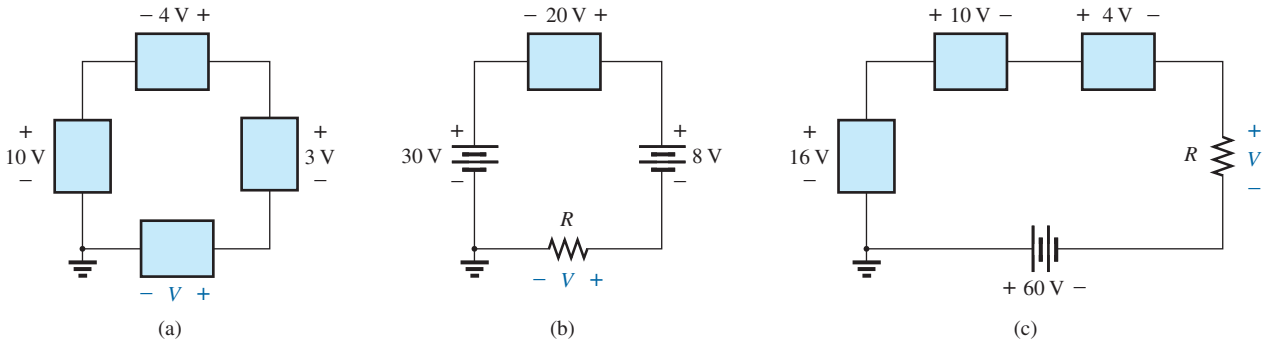

**FIG. 5.103**
19. Find the unknown voltage source and resistor for the networks in Fig. 5.103. First combine the series voltage sources into a single source. Indicate the direction of the resulting current.